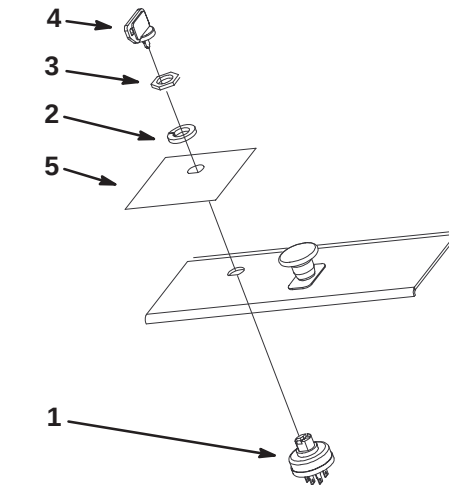

Figure 3
7. Remove the nut and lock washer securing the ignition switch to the control panel and remove the switch from the panel (Fig. 3).